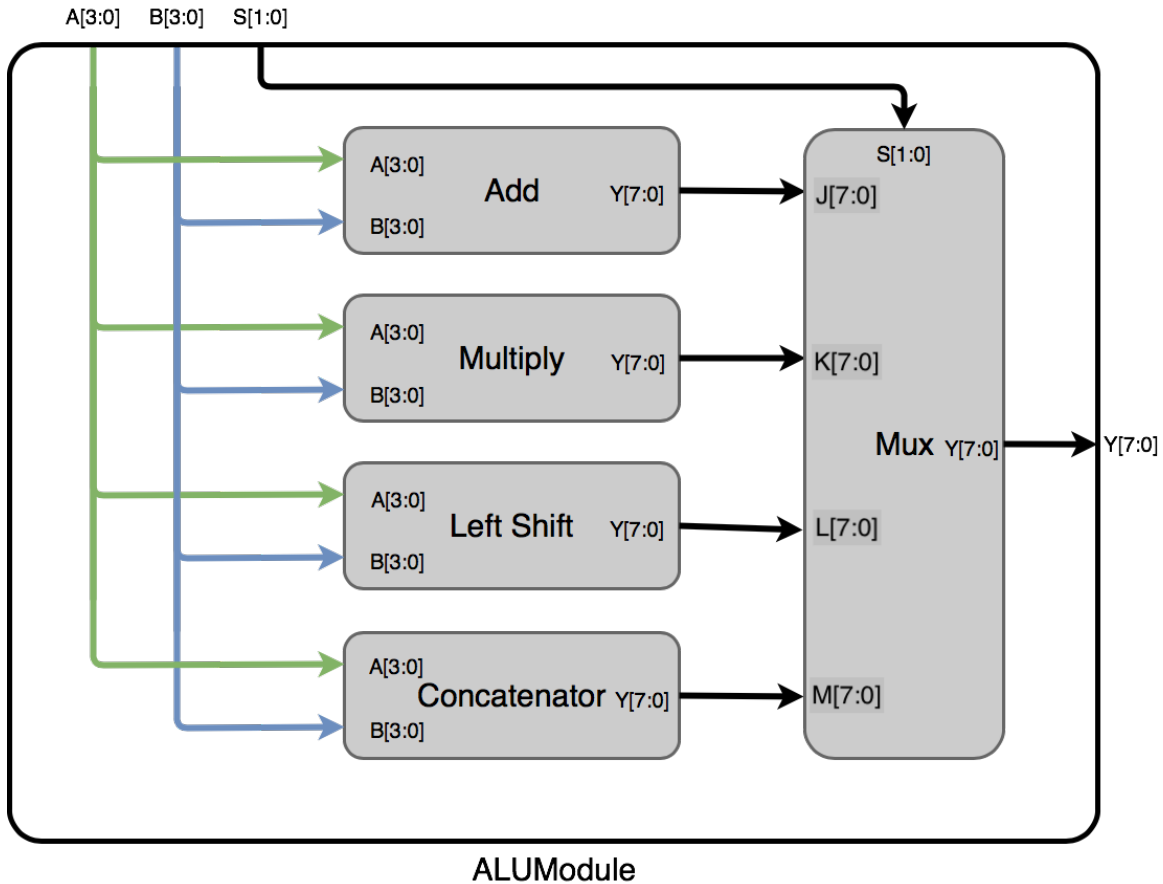

Figure 1: ALU block diagram.
5. **Multiplexer** - A multiplexer is a device that has N control inputs and 2^N data inputs. In Figure 1, the multiplexer is referred to as Mux, which has four 8-bit inputs (J, K, L, M), and one 2-bit control signal (S). Whenever $S = 2'b00$, the output $Y = J$; if $S = 2'b01$, then $Y = K$ and so on.